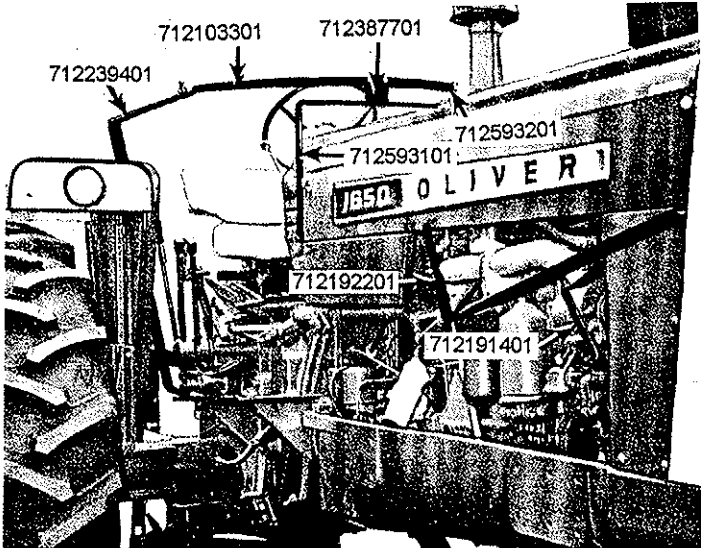

FIGURE 1
4. Bolt #712387701 mounting bracket to saddle using 5/16" x 3/4" hex head bolts and nuts. See Figures 1 & 2.
7. Insert the #712239401 side arm in wide hem at right rear of vinyl. Bolt lower end to platform. (Hole in platform has to be made large enough for 3/8" x 1 1/2" bolt). See Figures 1 & 2.
8. Insert yoke in top hem of cover. Bolt yoke to mounting bracket using 1/4" x 3/4" flat head bolts. Bolt door post to yoke and door post brace with 1/4" x 1" bolts and nuts. Bolt side arms to yoke with 3/8" x 1 1/2" hex head bolt and nut. See Figures 1, 2 & 3.